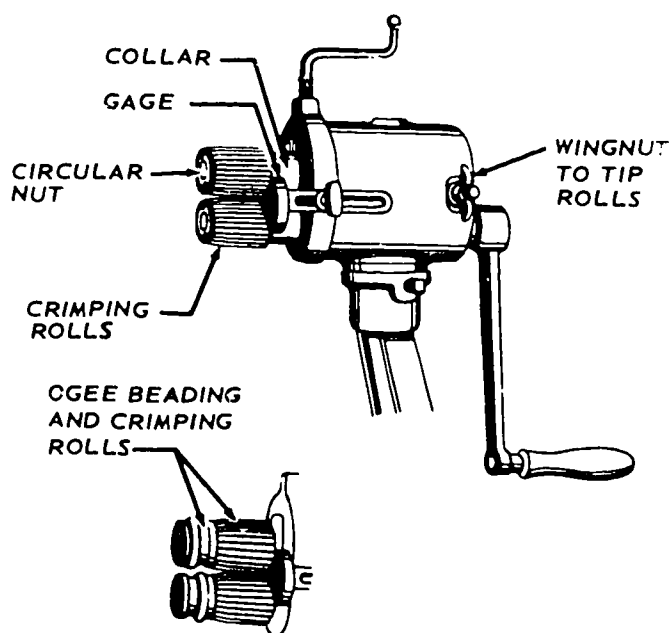

Figure 3-11. Crimping machine.
**Crimping machine.** The crimping machine, shown in figure 3-11, is used to make one end of a pipe joint smaller than the other so that the two sections may be slipped together. Some of the crimping machines have combination beading rolls and crimping rolls. The bead serves to reinforce a formed cylinder and to prevent the crimped edge from slipping too far into the other cylinder.